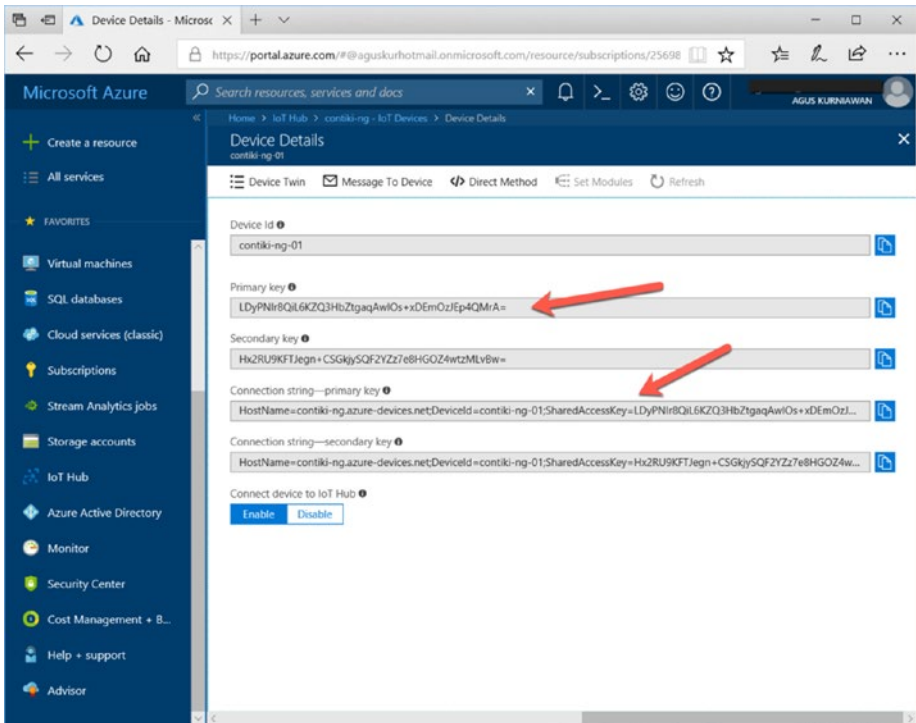

Figure 8-7. Copy the IoT device key and its connection string
You should see the IoT device key in the “Primary key” and “Connection string” fields. You can see it in Figure 8-7. You can copy the text that is indicated by an arrow. We will use these keys in our program.
- `{yourdevicekey}` is a shared access key. You can find it in the primary key field from your registered IoT device; see Figure 8-7.